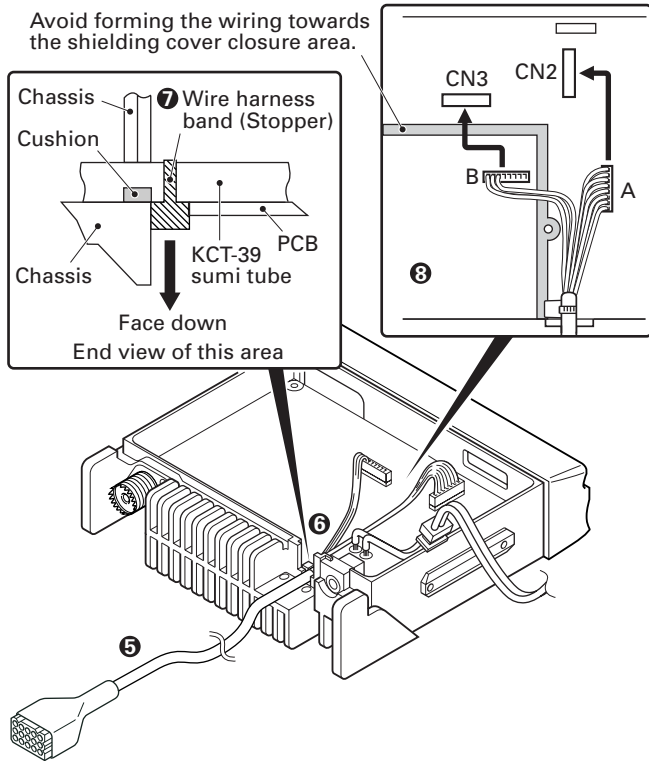

Fig. 5
3. Insert the KCT-39 cable (⑤) into the chassis (⑥). The wire harness band (⑦) must be inside the chassis and face down.
4. Connect the KCT-39 to the TX-RX unit as shown in Figure 5 (⑧).